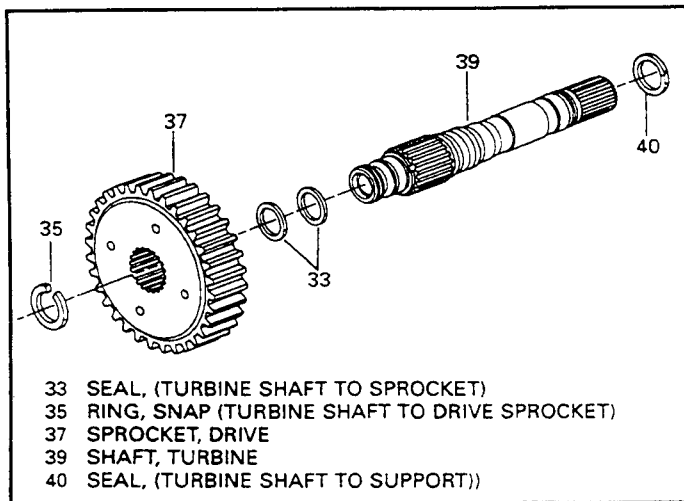

Figure 164
1. Remove the drive sprocket from the turbine shaft and inspect the spline area on both, as shown in Figure 164.
2. Remove and discard the three solid sealing rings from the turbine shaft (See Figure 164).
4. Install the drive sprocket onto the turbine shaft and install the snap ring as shown Figure 164.